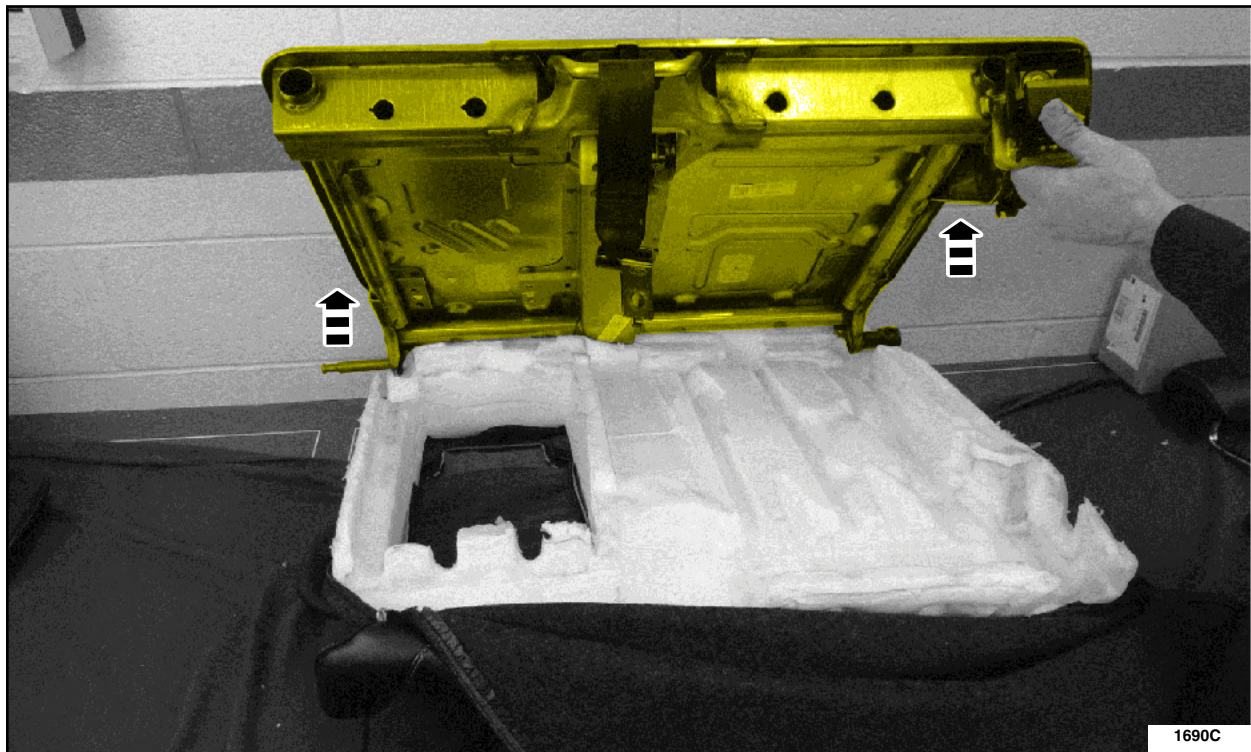

FIGURE 10
12. Lift the frame upward and remove it from the cushion. See Figure 10.